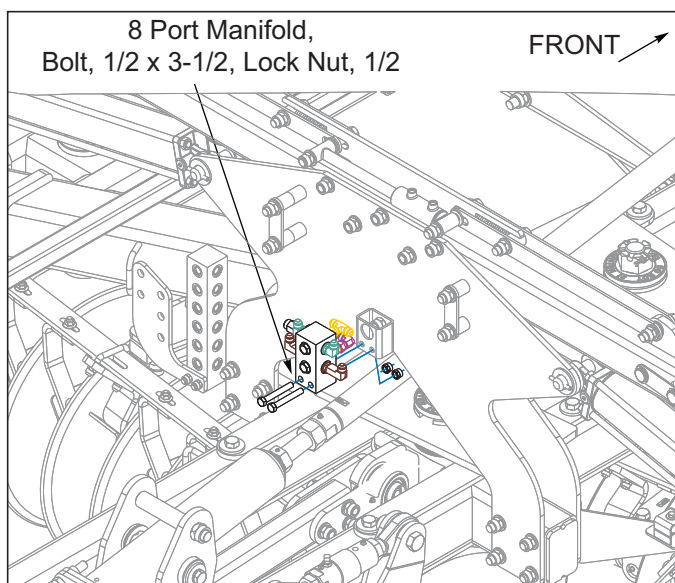

Figure 3-10: 8 Port Manifold 7531-32'-35'
6. Models 7531-32'-35' install the 8 port manifold, bulkhead mount in position shown, **See Figure 3-10**, using 1/2 x 4 bolts and 1/2 lock nuts.